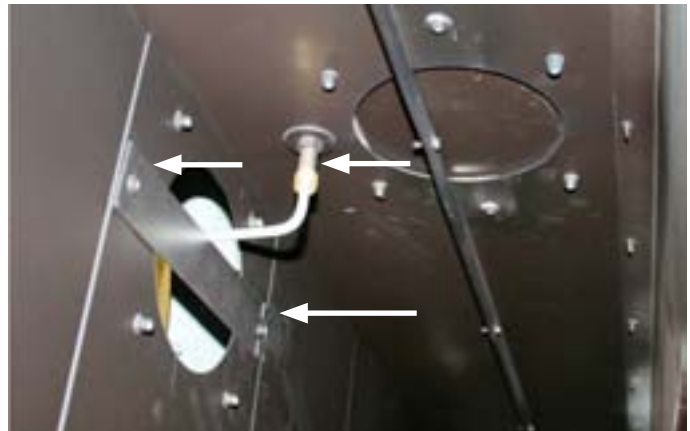

Figure 9a. Removal of Top Vent air baffle and pressure sensing tube.
3. Position the supplied Rear Vent pressure sensing tube as shown in **Figure 9a**. Hand tighten the compression nut by hand and then a half-turn with a wrench.